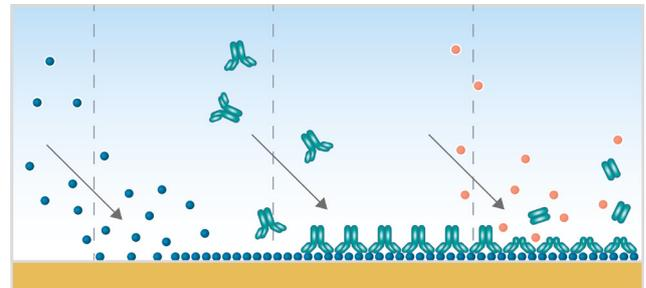

Figure 10
- Fibril formation (not shown in fig 10)